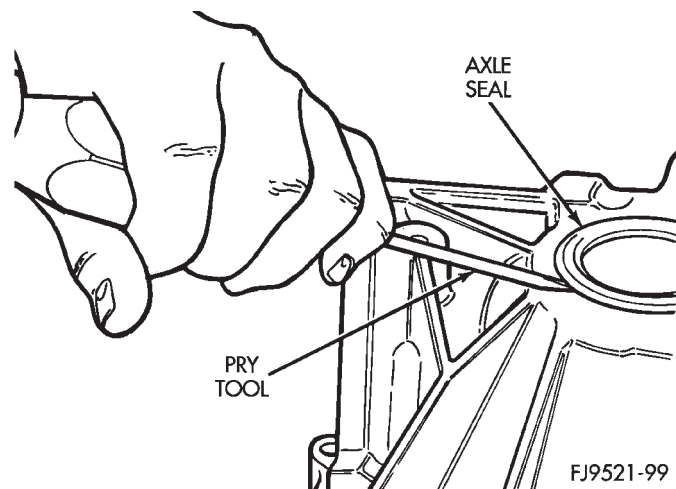

Fig. 18 Axle Shaft Seal Removal
(2) Insert a flat-blade pry tool at outer edge of axle shaft seal (Fig. 18).
(3) Tap on the pry tool with a small hammer and remove axle shaft seal.